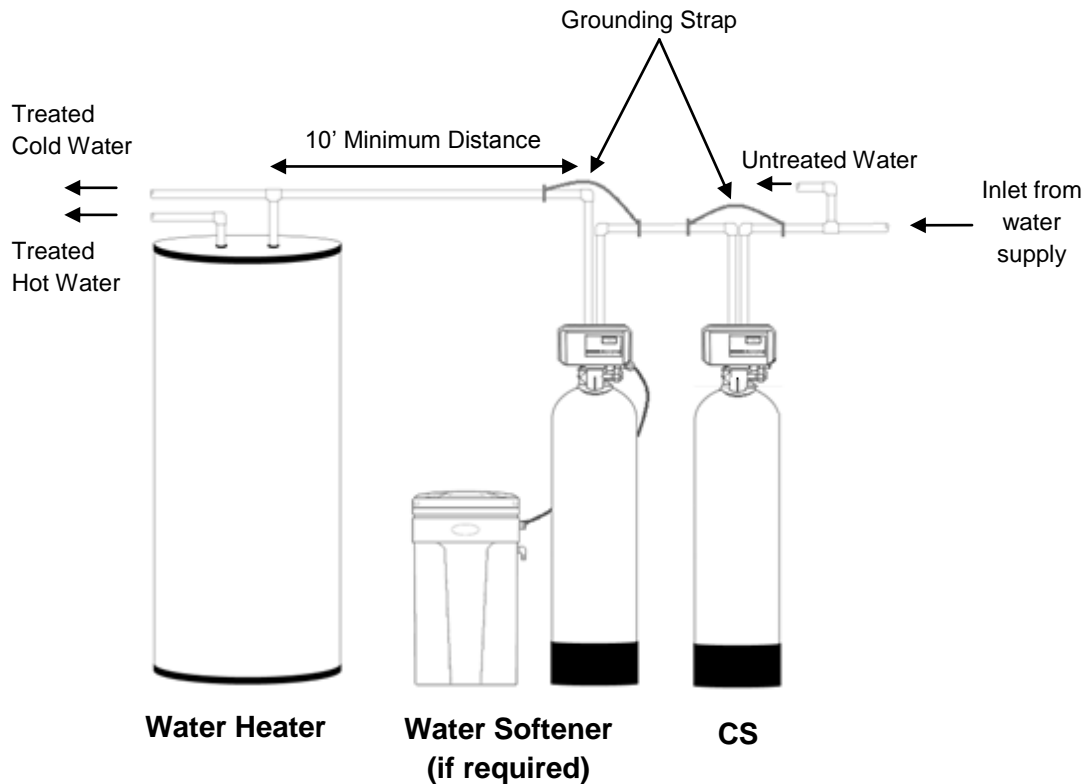

FIGURE 1: Typical Installation
6. Appliances requiring extended periods of continuous or high flow water use (i.e. geothermal heat pumps, swimming pools, lawn irrigation, outside hose bibs, etc.) should bypass the water filter. (see installation diagram Fig. 1).